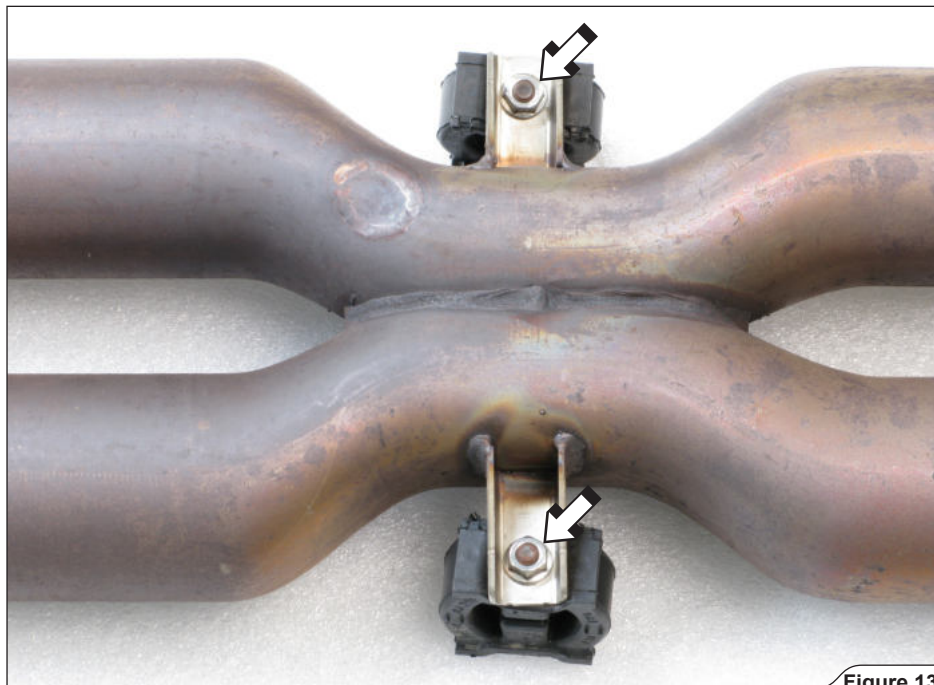

Figure 13
10. Unscrew the marked nuts and remove the rubber brackets off the collector (**Figure 13**).